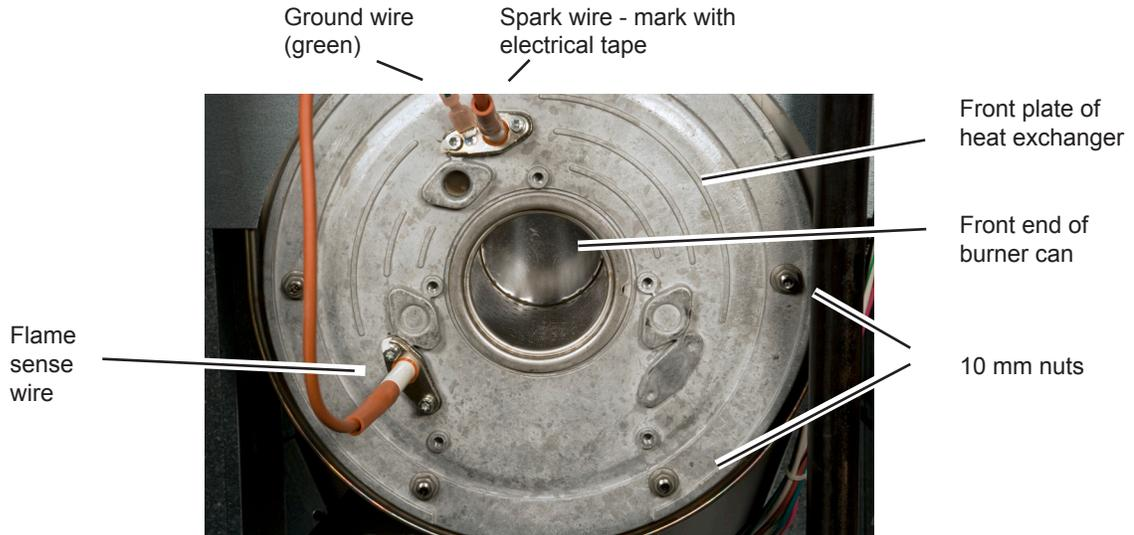

Fig. C5-8 - Front plate of heat exchanger with air-gas channel removed
- Fig. C5-8 shows how the front of the unit looks at this point.